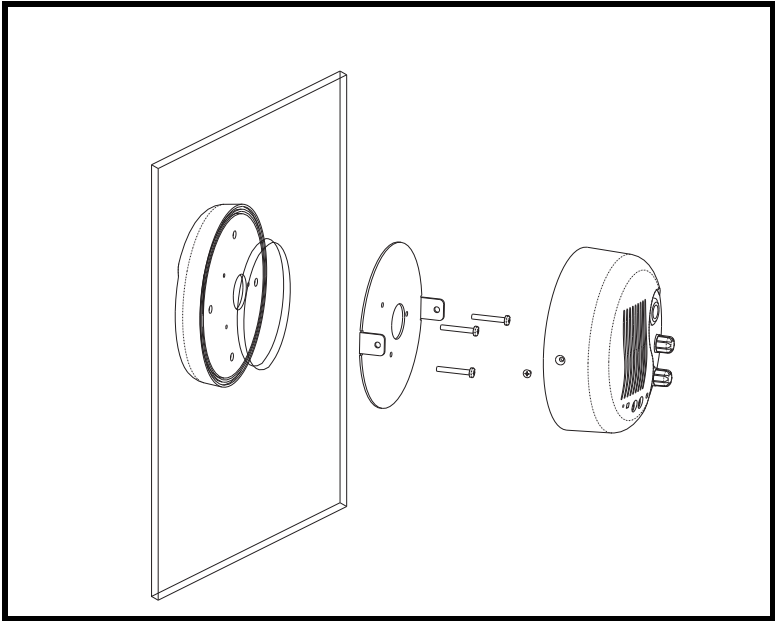

FIGURE 2. ICW-6 Assembly Detail
1. Remove the **two (2) screws** holding the mounting plate to the operator assembly. (See Figure 2 .)